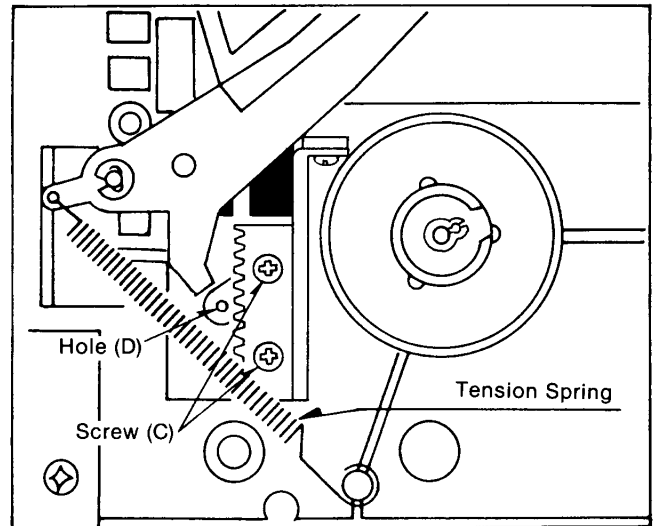

Figure M43
9. Slightly loosen 2 screws (C). Insert a Fine Adj. Screwdriver in the hold (D). (Figure M43)